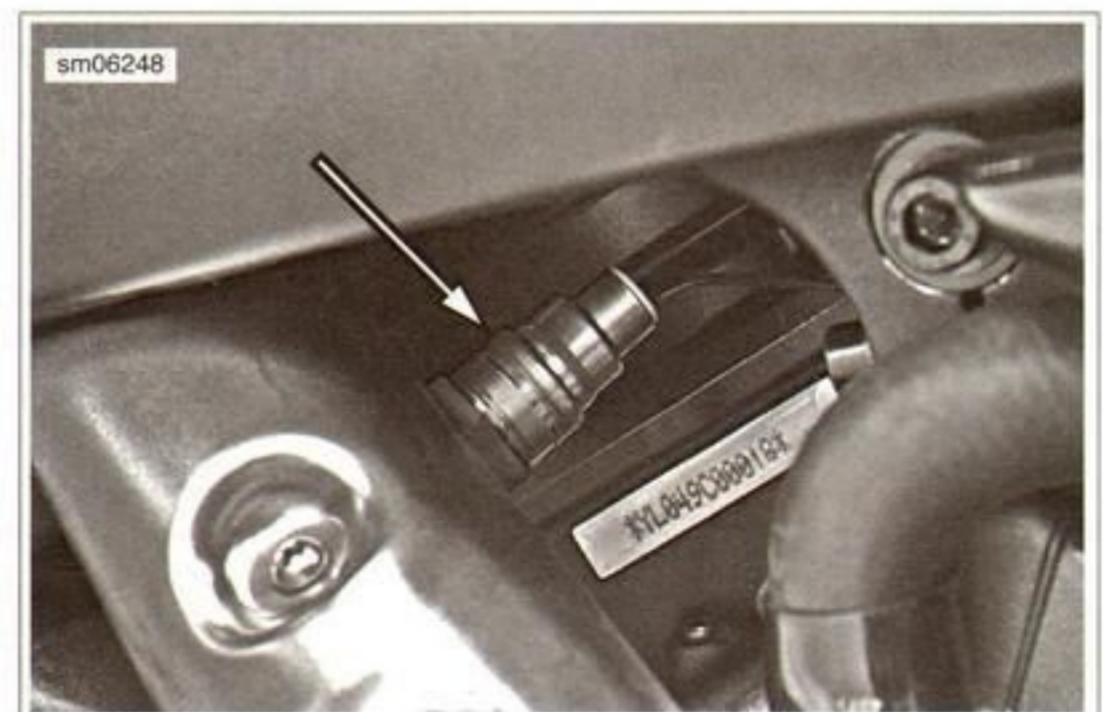

Figure 4-18. Rear O2 Sensor
5. See Figure 4-18. Thread the sensor into exhaust header.